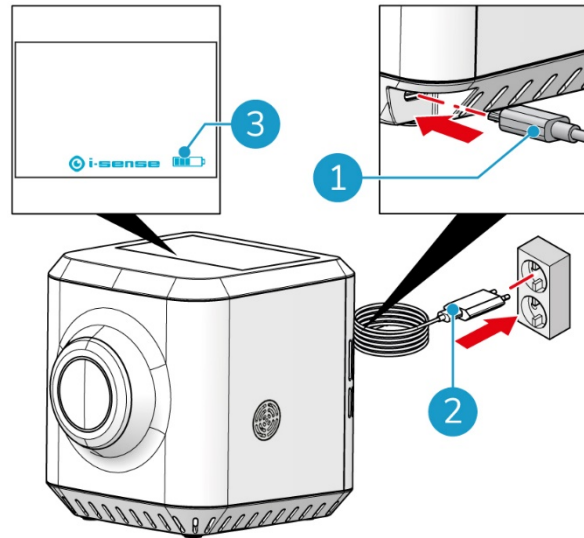

Figure 6
1. Connect the USB cable to the USB port (Figure 6, pos 1).
2. Connect the charger to a wall socket (Figure 6, pos 2).
3. The display will show battery charging or USB (Figure 6, pos 3).